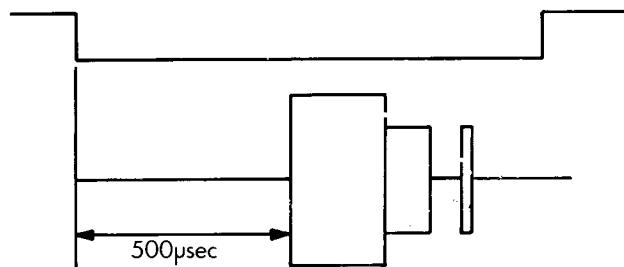

Fig. 5-1 Index burst waveform
- 5) Measure timing between sweep start and an initial data pulse. It should be $500 \text{ usec} \pm 500 \text{ usec}$. When the timing is not within this range, proceed with the following adjustment. (Refer to Fig. 5-1).